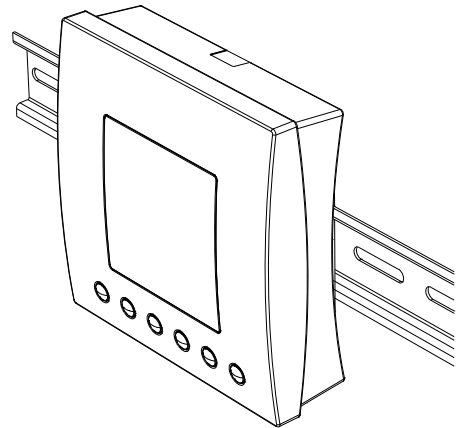

Figure 6: DIN Rail Mounted
5. Slide the back plate onto the DIN rail (Figure 6).